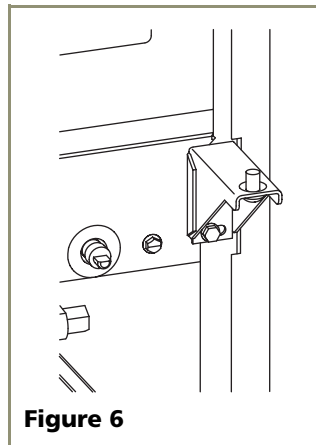
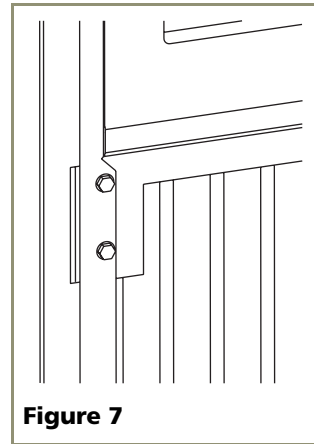

Figure 6
Figure 7
4. Remove bottom hinge from cabinet (two screws). See **Figure 6**. Remove screws on opposite side of cabinet (**Figure 7**). Note that there may be a nut behind one or both screws on either side.